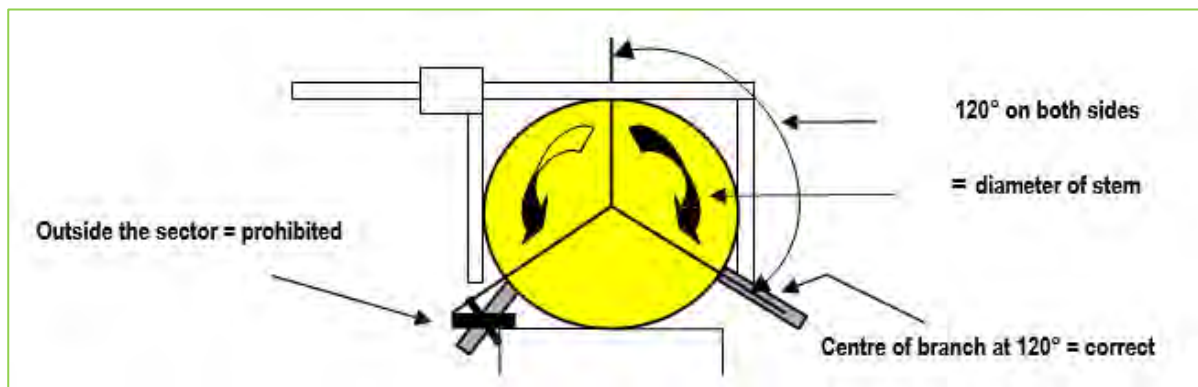

Figure 38: The area to be limbed left and right 120° (corresponds to the stem diameter)
- Within the limbing sector, 30 branches with a total diameter of 900 mm are placed on either side of the stem midline at approximately 120° (see figure 38).